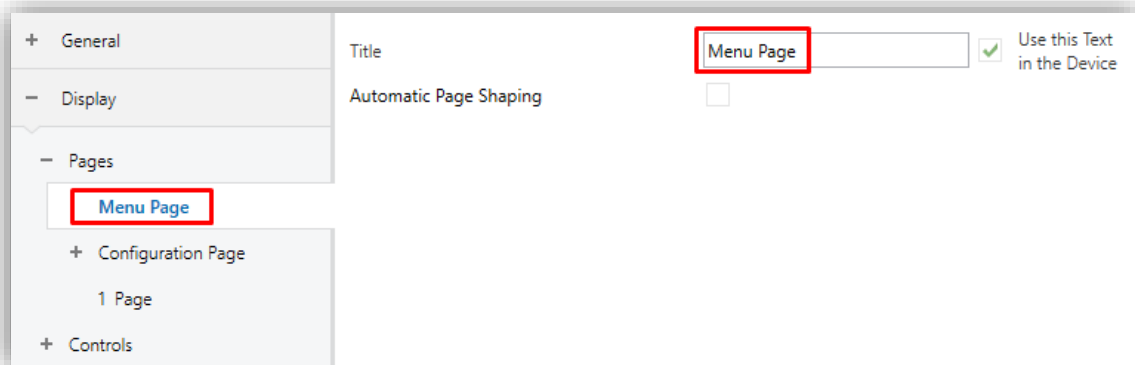

Figure 54. Menu
- **Title:** text field that identifies the menu pages. In addition, this field allows changing the name of the tab in ETS left menu, as shown in the Figure 54.